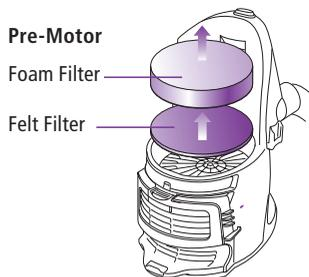

Fig. 14
- 2 Remove the pre-motor filters out from the top of the motor base. (fig. 14)